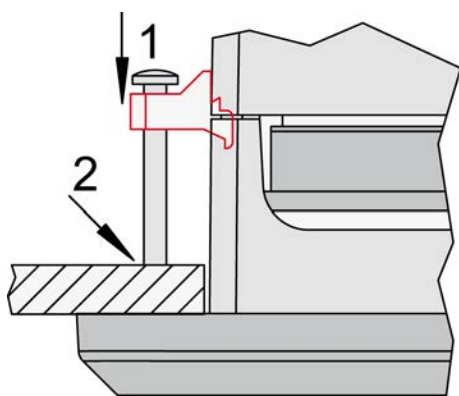

Fig. 14: Tighten clamping screws
6. ➔ Tighten the clamping screws (Fig. 14/1) until the control unit is secured to the control panel (Fig. 14/2). Over tightening of these screws may result in the clamp inserts or the housing breaking. Do not exceed the recommended tightening torque of 0.1 Nm.